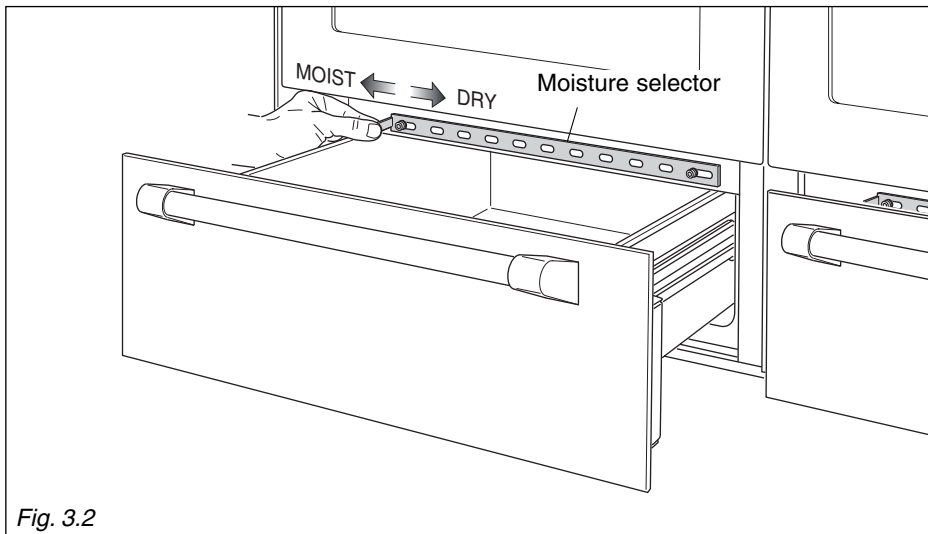

Fig. 3.2
- Push and turn the control knob to a temperature setting: (LO), (HI) or between (LO) and (HI) position.
- Slide the Moisture selector to a Moist or Dry position. Intermediate positions can be setted (fig. 3.2) (see the "MOISTURE SELECTOR" chapter).
MOISTURE SELECTOR (fig. 3.2)